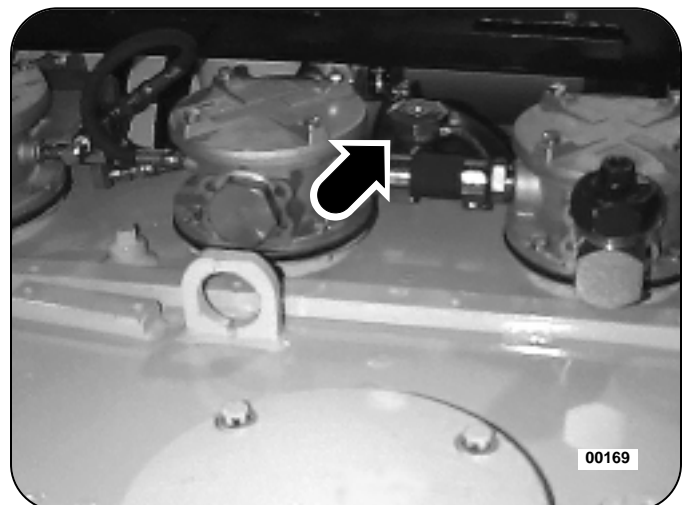

Figure 5: Hydraulic Tank Safety Relief Cap
2. Remove the hydraulic tank safety relief cap. See Figure 5. Test cap on a coolant cap tester. Replace cap if it does not meet specification.